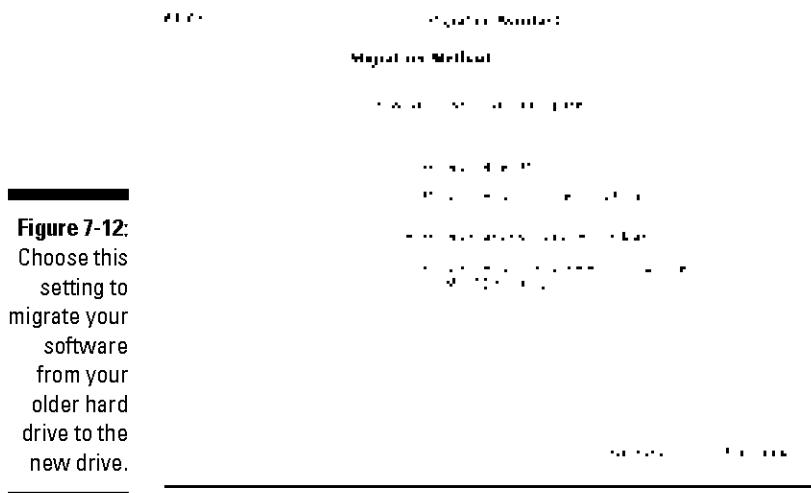

Figure 7-12:
6. In the Migration Method window that appears, select the From Another Volume in this Mac check box, as shown in Figure 7-12, and click the Continue button.